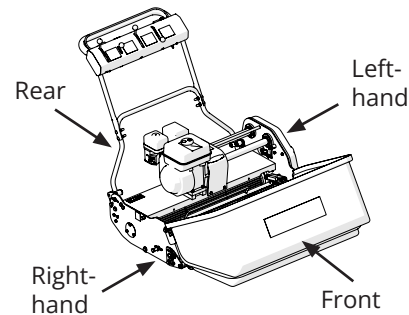

Fig.1. Viewpoints
- Fig.1. Viewpoints 5
Location descriptions (e.g. left/right hand) throughout this manual are observed from the operators view whilst in normal drive position, as per Fig.1.